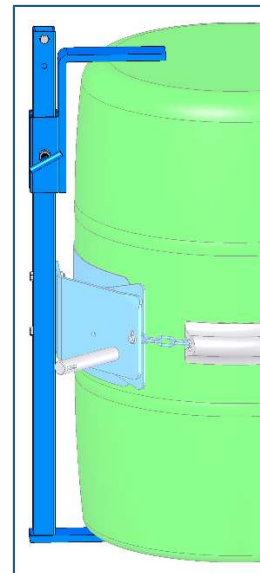

Figure 2.1
**Bracket Assembly Kit 4556-P is required** to handle a RIMLESS plastic drum (figure 2.1), and is also recommended for a fiber drum. The Bracket adjusts for a 31" to 39" (79 to 99 cm) tall drum.